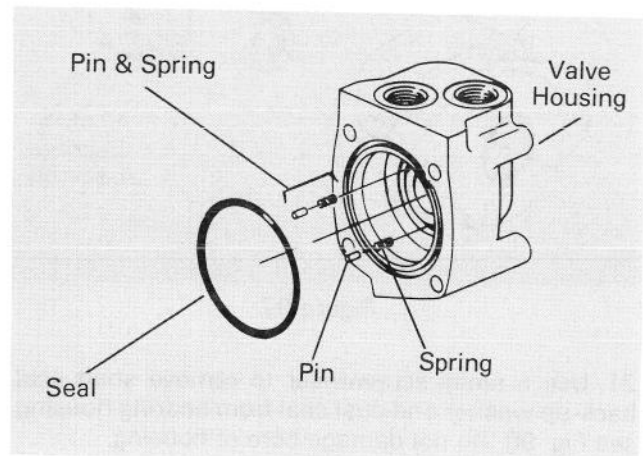

Figure 102
15. Install 2 springs and 2 pins in the holes located in the bore of the valve housing, as shown in Fig. 102.